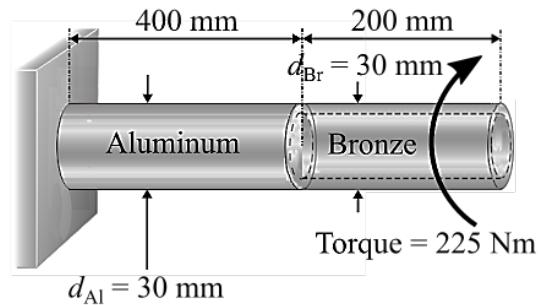

Figure 4(c) / Rajah 4(c)
- CLO2 (c) Figure 4(c) depicts aluminum rods with a diameter of 30 mm and a length of 400 mm connected in series to a bronze pipe. The bronze pipe has an outer diameter of 30 mm, a length of 200 mm, and carries a torsional load of 225 Nm. It is known that the angle of twist for the bronze pipe is double than the angle of twice for aluminum rod. Determine: